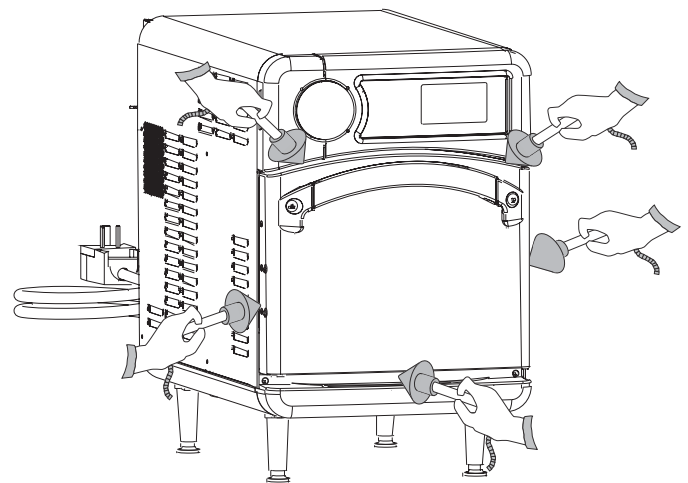

Figure 29: Survey Meter Placement
6. Measure microwave emission around the door as shown in Figure 29, moving the meter sensor at 0.5 inches/second.